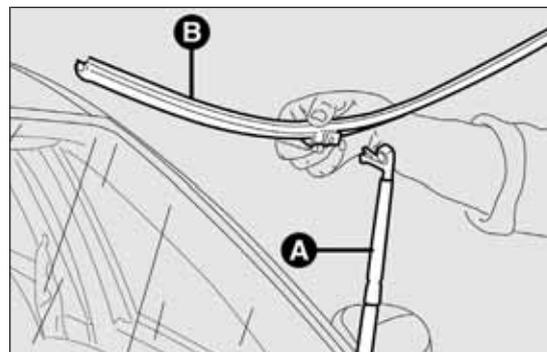

fig. 241
- raise the windscreen wiper arm A fig. 241 and position the blade so that it forms an angle of 90° with the arm;